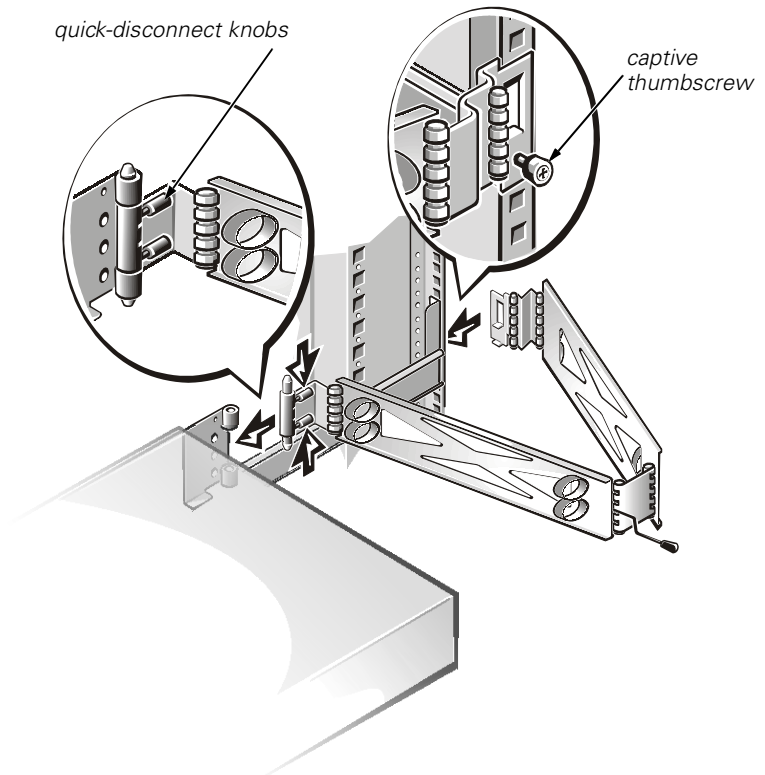

Figure 1-11. Installing the Cable-Management Arm
1. Facing the back of the rack cabinet, locate the threaded hole on the back of the slide assembly and secure the end of the cable-management arm (the end having a bracket and thumbscrew) to the right side vertical rail (see Figure 1-11).
3. Squeeze the quick-disconnect knobs on the free end of the cable-management arm and align the two hinge halves to attach the arm to the bracket on the back of the system chassis (see Figure 1-11).